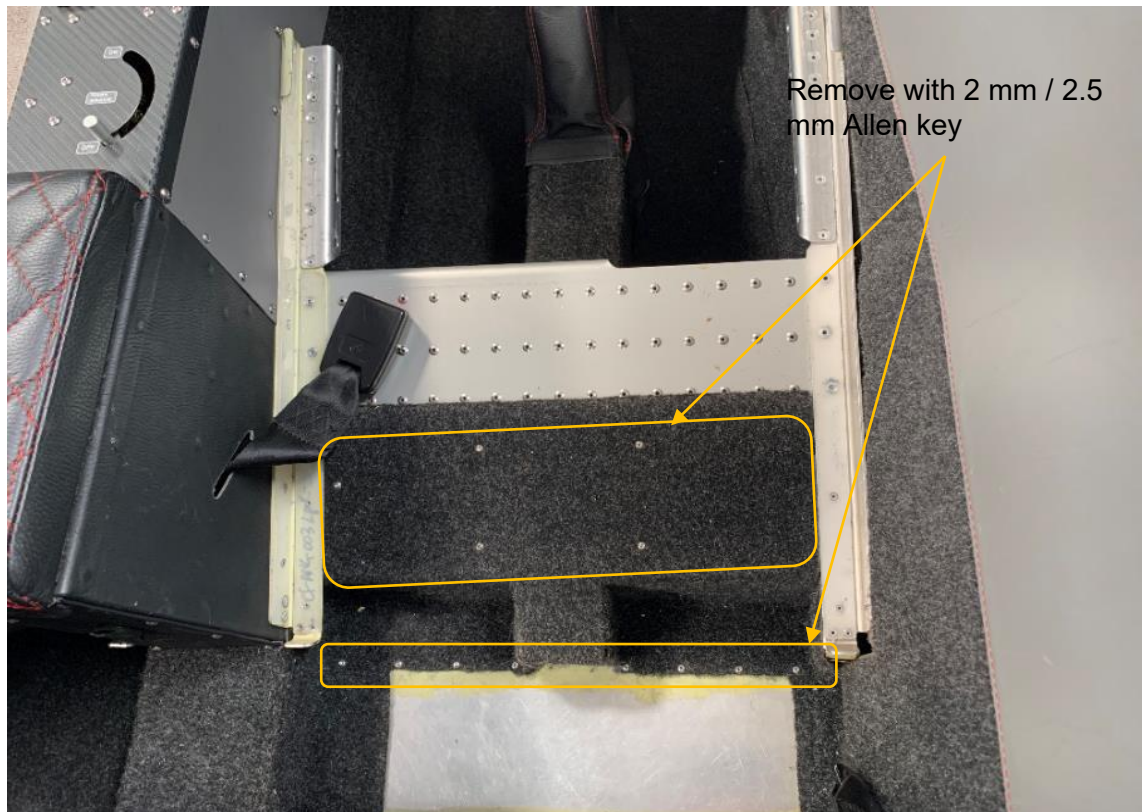

Figure 2 – Removal of floor skin (CF-SKN-016-R-C-0)
2. Remove a front seat from the fuselage then use the 2 mm / 2.5 mm Allen key to remove the floor skin (refer to CF-SKN-016-R-C-0) shown in Figure 2.